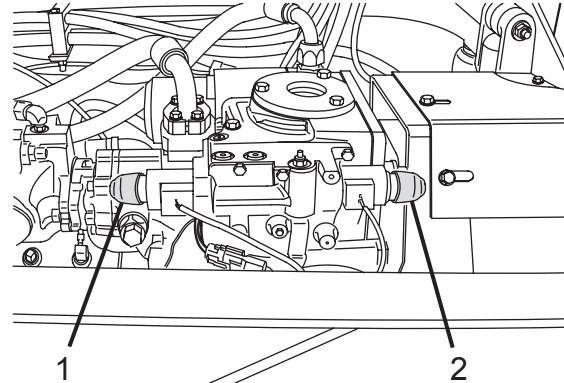

Figure 32
1. Locate the manual override buttons (Figure 32, Items 1 or 2) on the electronic displacement control valve.